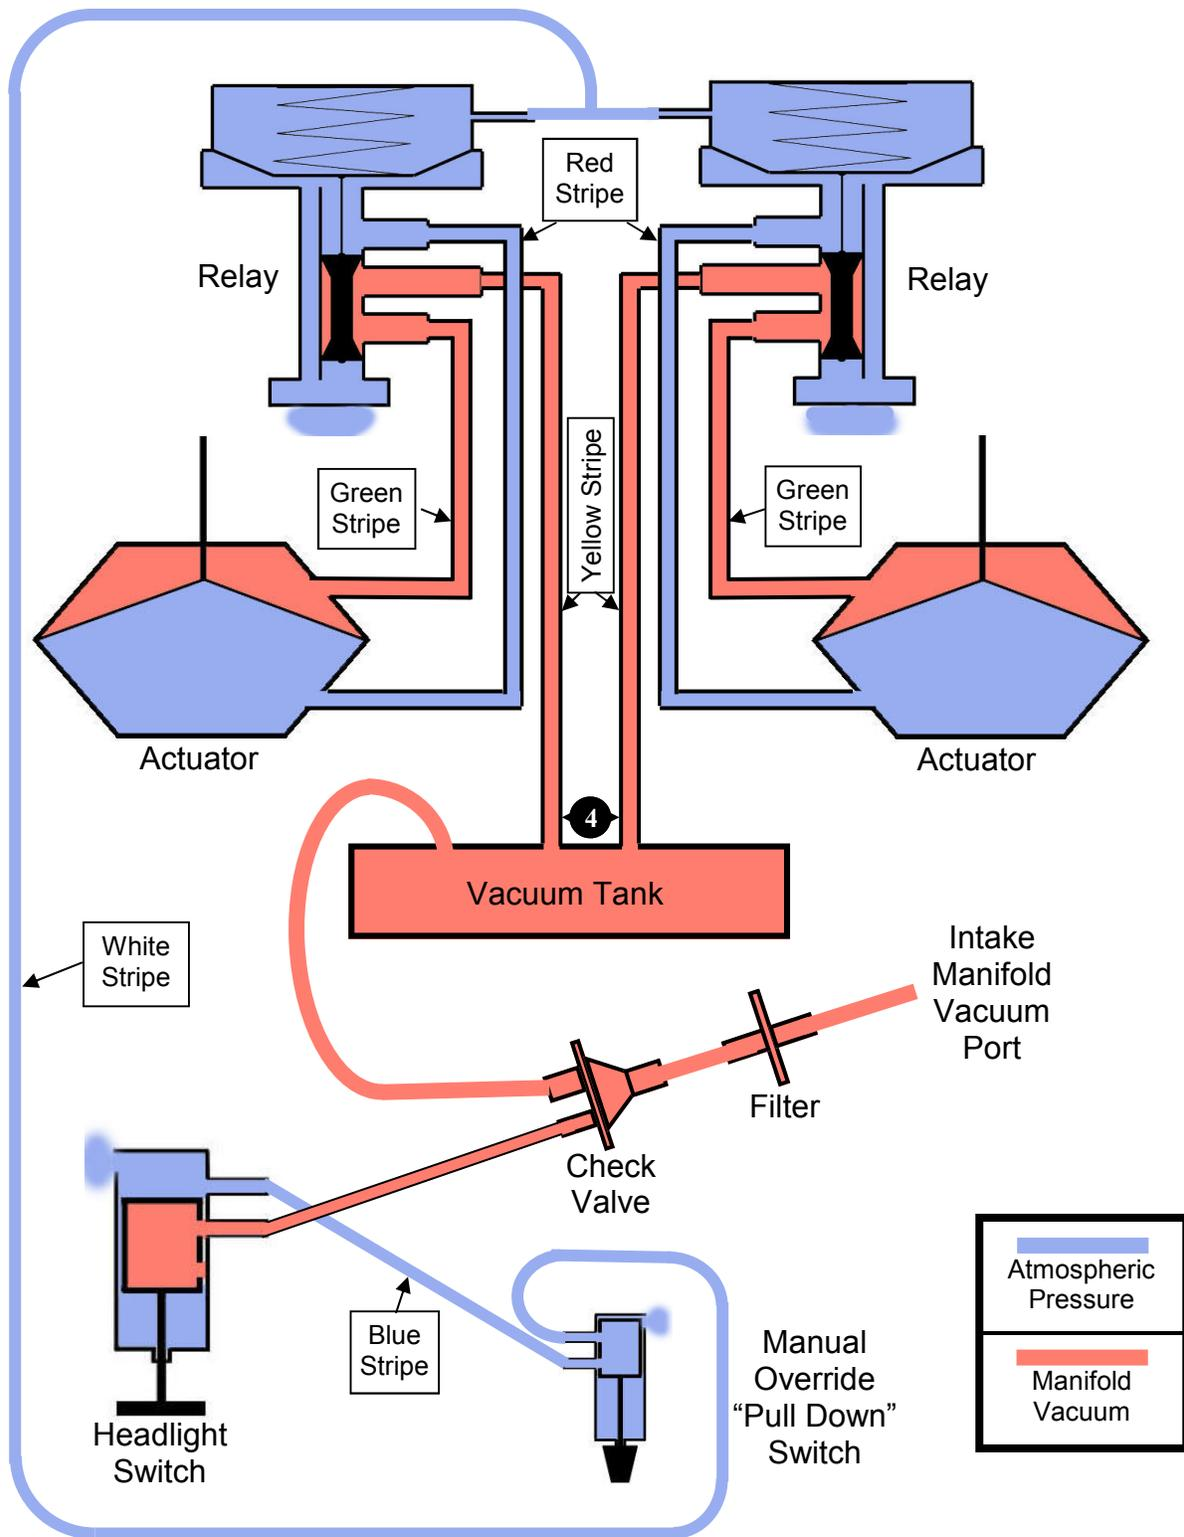
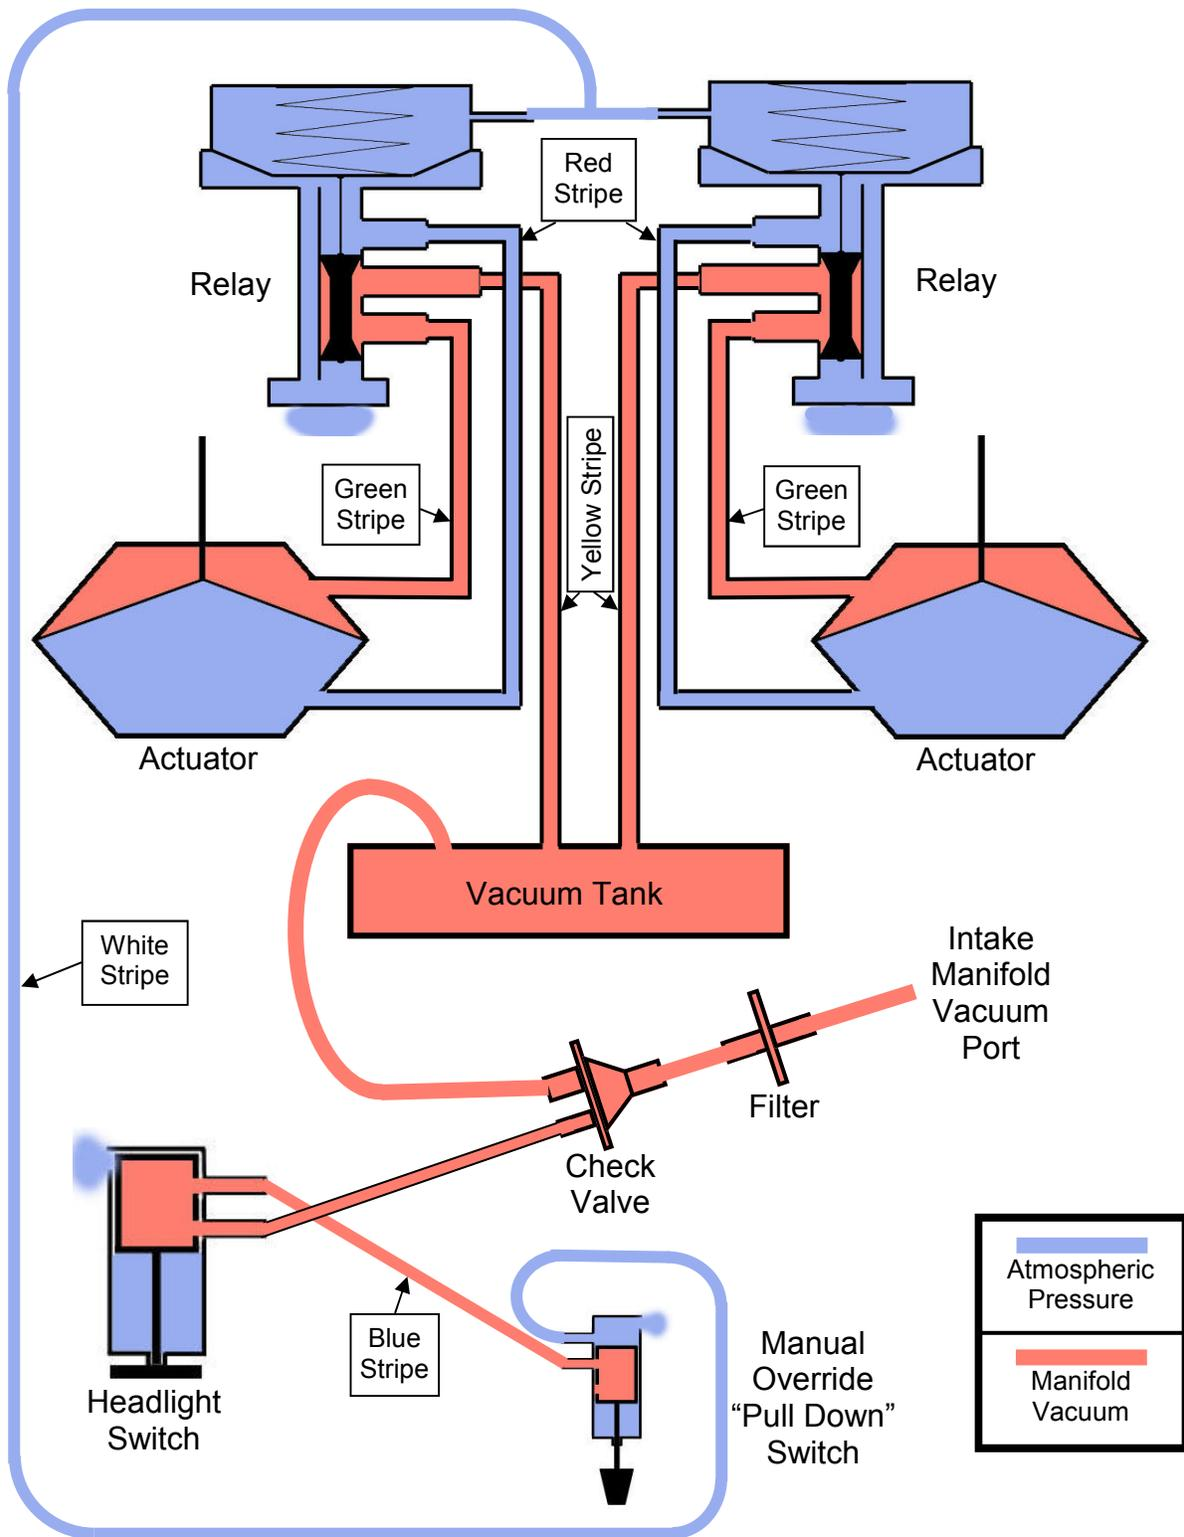

Figure 2: Headlight Switch in "ON" Position
Figure 3: Headlight Switch in "OFF" Position - With Manual Override "Pull Down" Switch in "DOWN" Position
Figure 2: Shows the system state after the headlight switch has been pulled to the “ON” position and atmospheric pressure enters at the headlight switch. Note that in the relays, the springs have pushed the diaphragms and dog bone valves downward. This action ports vacuum from the tank to the front of each actuator while allowing atmospheric pressure to enter the rear of each actuator. Thus our headlights are, in fact, pulled up by vacuum (and pushed up by atmospheric pressure) when our headlights are switched on.
Figure 3: Shows the system state with the headlight switch in the “OFF” position and the Manual Override “Pull Down” switch in the “DOWN” position. In this case, atmospheric pressure enters at the “Pull Down” switch. As in Figure 2, note that in the relays, the springs have “pushed” the diaphragm and “dog bone” valve downward, vacuum is ported from the tank to the front of each actuator, and atmospheric pressure enters the rear of each actuator. Thus our headlights are, in fact, pulled up by vacuum (and pushed up by atmospheric pressure) when the “Pull Down” switch is extended and the headlights are switched off.
Figure 2 shows that you can test the vacuum integrity of the “dog bone” valves and the headlight actuators with the engine off by disconnecting each yellow-striped hose from the vacuum tank at ❸ and connecting a vacuum pump to each hose (separately) at that point. It takes a fair amount of pumping, but if the components are sealing properly, the headlight will slowly extend. Keep pumping after it has fully extended. If these parts of the system hold a vacuum, you can conclude that the relay “dog bone” valves, the actuators’ diaphragms, the actuators’ front seals, and the yellow-striped and green-striped hoses are intact.